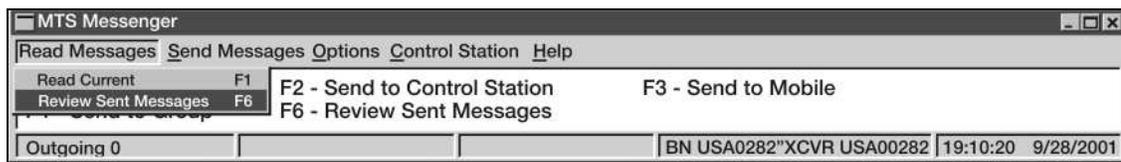

Figure 3-94. Read Messages Pull Down Menu
- a. Access the read messages pull down menu (see Figure 3-94) by either clicking with the mouse or using the function keys (F1 and F6).